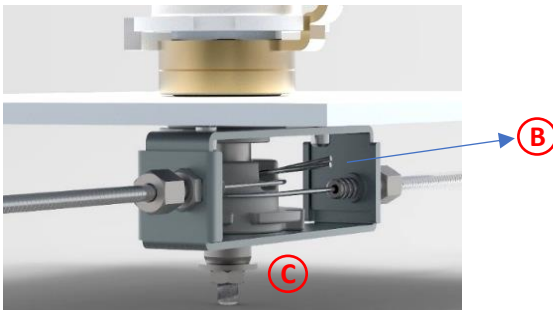

Figure 27.
Pull at the same time the two cables with the maximum force and fix the screw a 5 Nm (C) as shown in Figure 27.